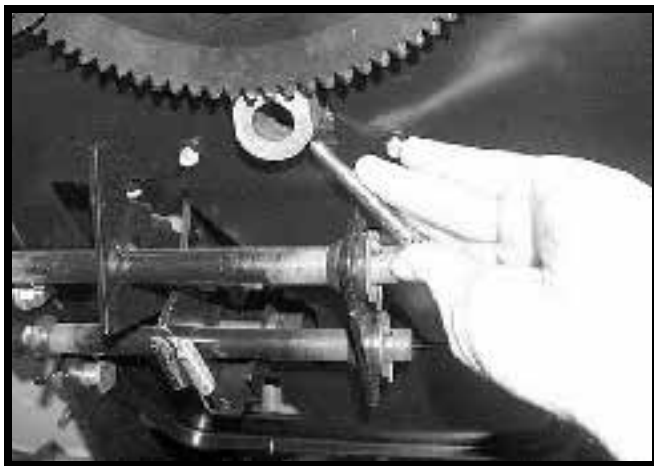

FIGURE 4
11. Use a center punch to mark the location to drill the hole for the 737-3000 lube fitting. See FIGURE 4.